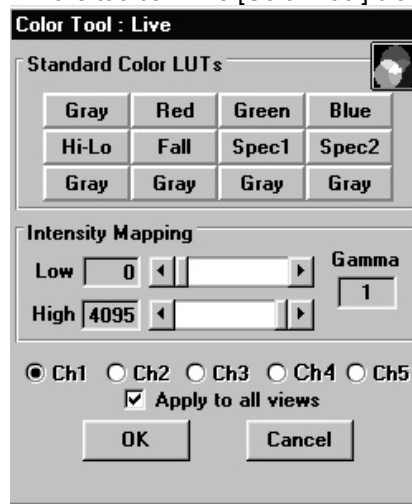

Fig. 2-64 [Color Tool] Dialog Box
2. Click the <LUT> button in the toolbar. The [Color Tool] dialog box appears as shown in Fig. 2-64.